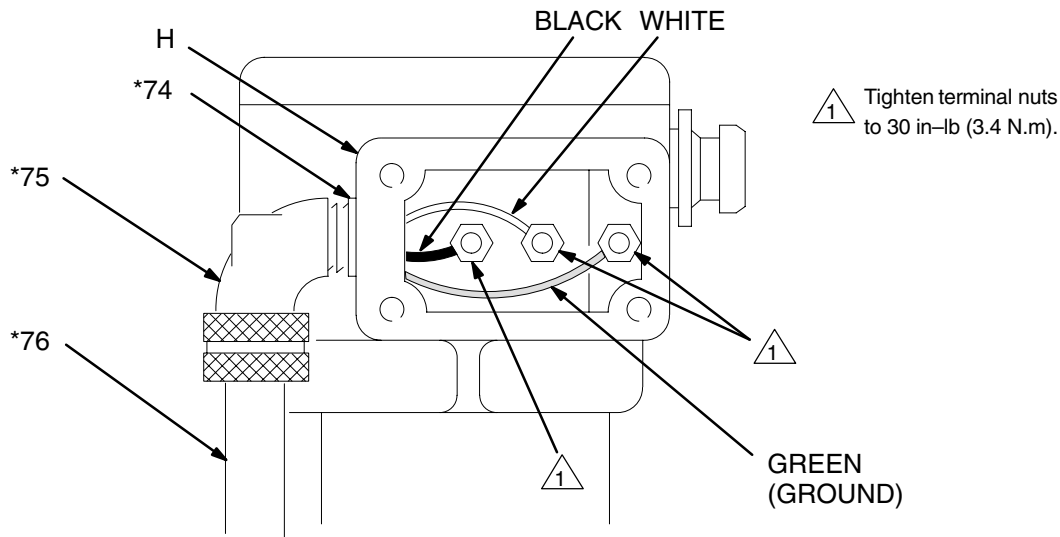

Fig. 4
1. Remove the cover from the electrical box (H) at the back of the heater (67). Screw the bushing (74*) into the inlet of the electrical box. Install the cord grip elbow (75*) in the bushing. See Fig. 4.
2. Thread the cord (76*) through the elbow (75*) and into the electrical box. Attach the black lead to the leftmost terminal, the white lead to the center terminal, and the green ground wire to the rightmost terminal. Tighten all terminal nuts to 30 in-lb (3.4 N.m). Tighten the nut on the cord grip elbow (75*) to secure the cord. See Fig. 4.